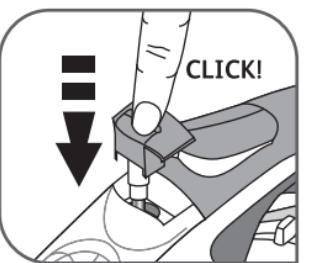

Fig.21
- Reposition the anti-scale rod; push the valve until it clicks – fig.21.
- At the end of this operation, put the anti-scale valve back in place; push down until it clicks – fig.21.